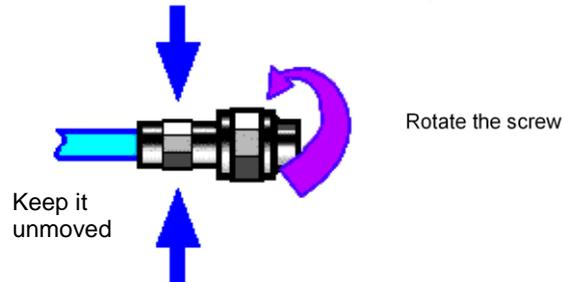

Fig. 3.5 Diagram - Rotating Connector
**Step 2.** As shown in Fig. 3.5, move both connectors straight together, so that they can be connected smoothly; rotate the threaded sleeve of connector (rather than the connector itself) until it is tightened; during connection, there can be no relative rotary motion both connectors;